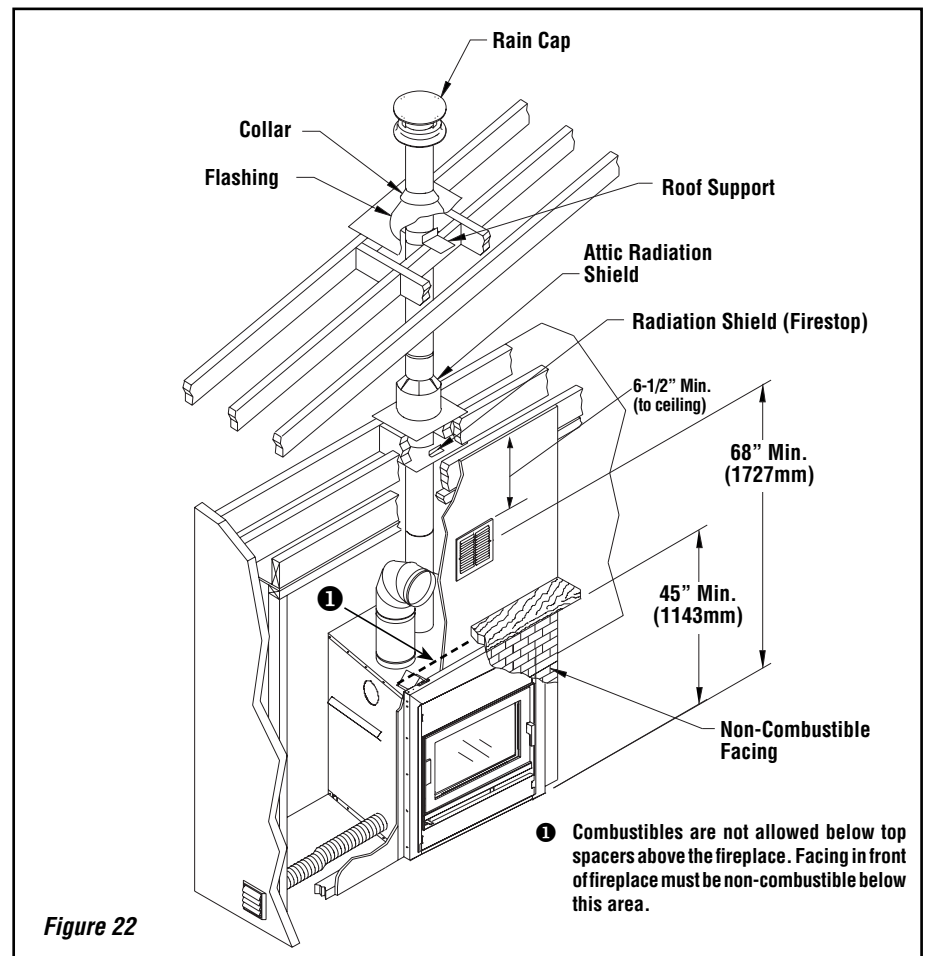

Figure 22
- The fireplace façade can be covered with non-combustible material (**Figure 22**).